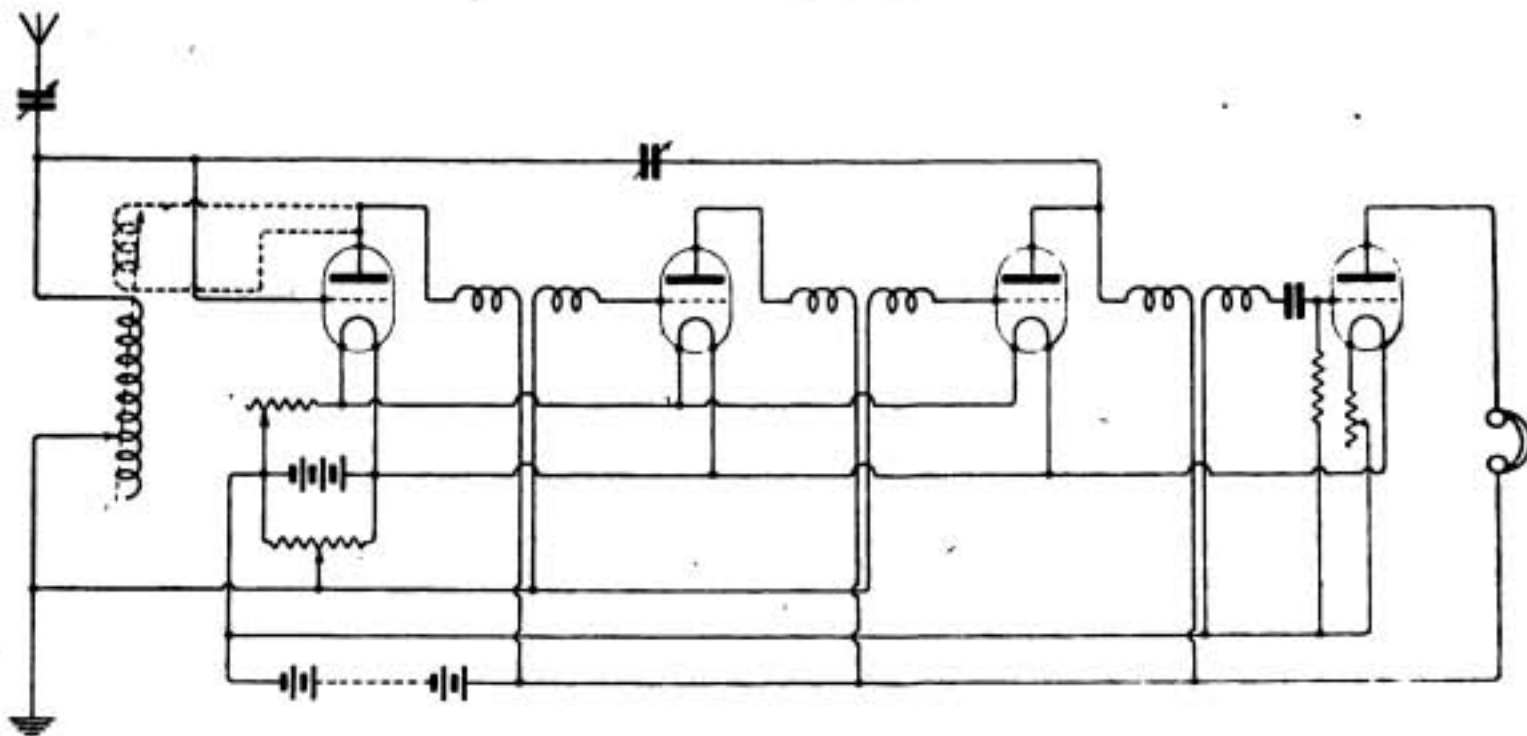

Fig. 7.
(1) See diagram (Fig. 7) A.T.C. 0.0015 mfd. air dielectric. Inductance for 1,000 metres, the wavelength of PCGG, A.T.I. 4" diameter, with 4" of winding of No. 30 D.C.C. Reaction coils 3" diameter x 2" winding No. 34 S.S.C. (2) Yes. (3) Cannot be used directly or through chokes on a 4-valve receiver. Try making up a very small capacity high voltage accumulator and charge it from the mains. (4) Yes. Space wires at least 6 ft. apart. If possible raise fat end.